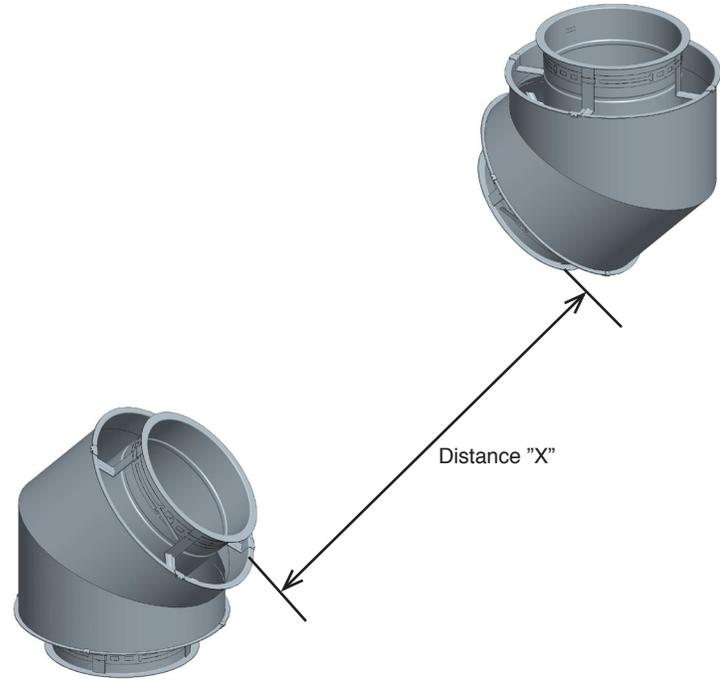

Figure 25 - Step 1 for Installation of Variable Length
1. Measure the distance X required for the variable length. See **Figure 25**.